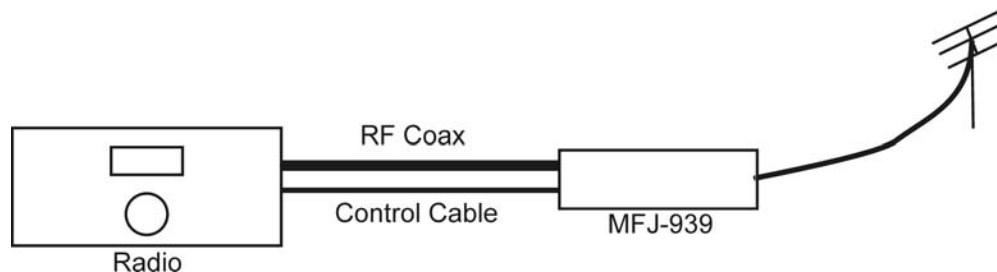

Figure 1 General Setup
2. Install the tuner between the transmitter and the antenna. Use a 50-ohm coaxial cable (such as RG-58) to connect the transmitter to the connector marked TRANSMITTER on the rear of the tuner. See Figure 1 on page 3.